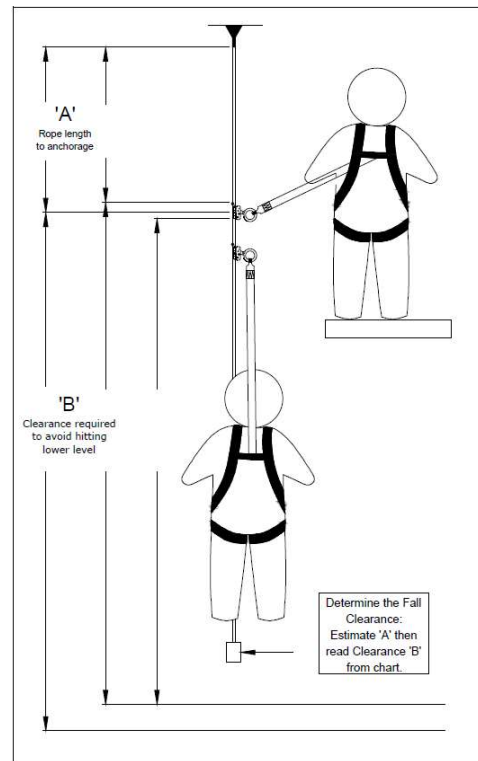

Figure 6– Fall Clearance
- e **FALL CLEARANCE:** Make certain enough clearance exists in your fall path to prevent striking an object (Figure 6). This required clearance **MUST** be determined **PRIOR TO EACH USE OF N610LY, N630LY**.